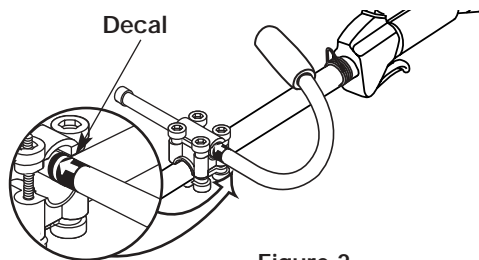

Figure 2
5. Slide the J-handle in or out until the arrow/white line on the decal touches the clamp assembly. See Figure 2. You must first loosen the screws if the handle is pre-installed.